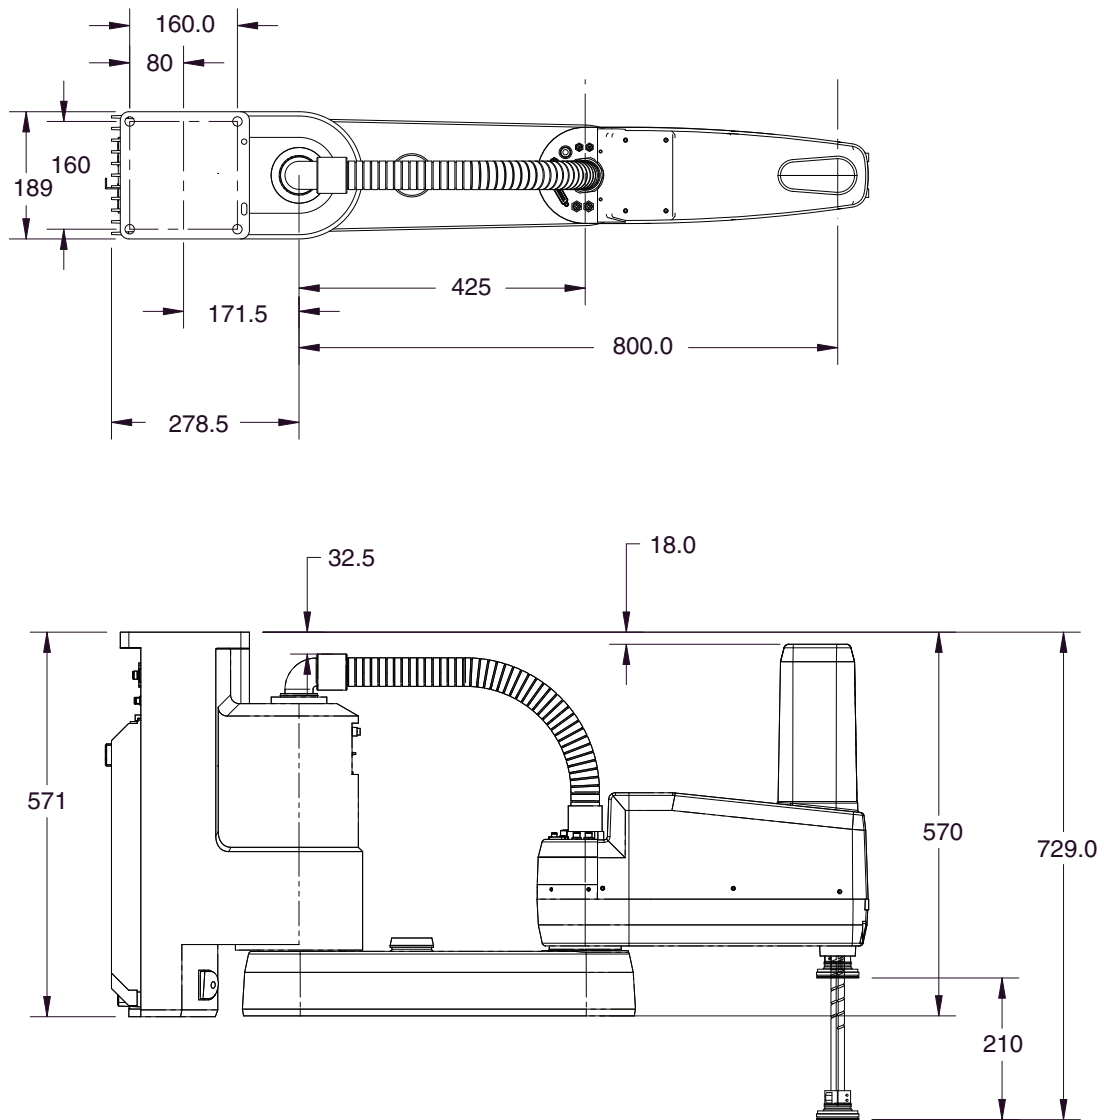

Figure 7-1. Top and Side Dimensions
**NOTE:** Other dimensions for the IP-65 version are the same as shown in Figure 7-1.